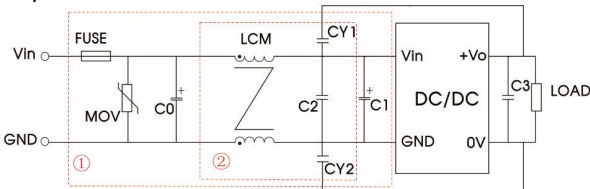

Fig. 6
Notes: For EMC tests we use Part ① in Fig. 6 for immunity and part ② for emissions test.